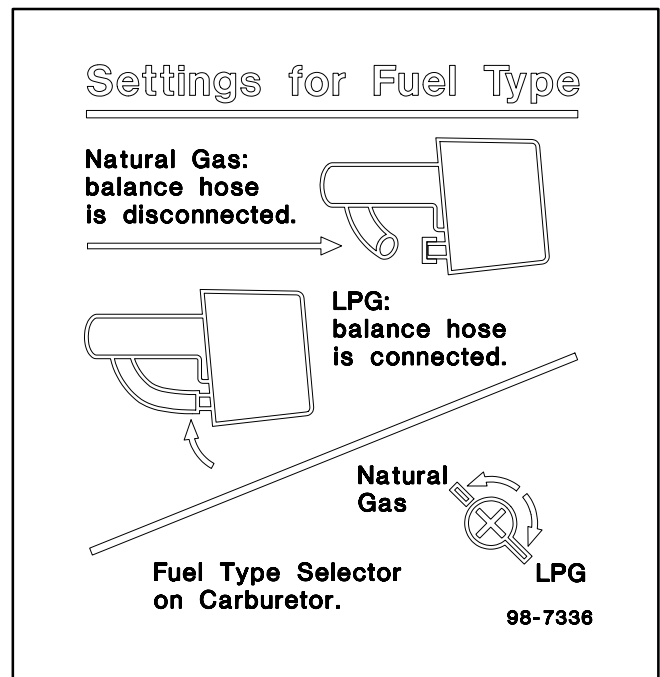
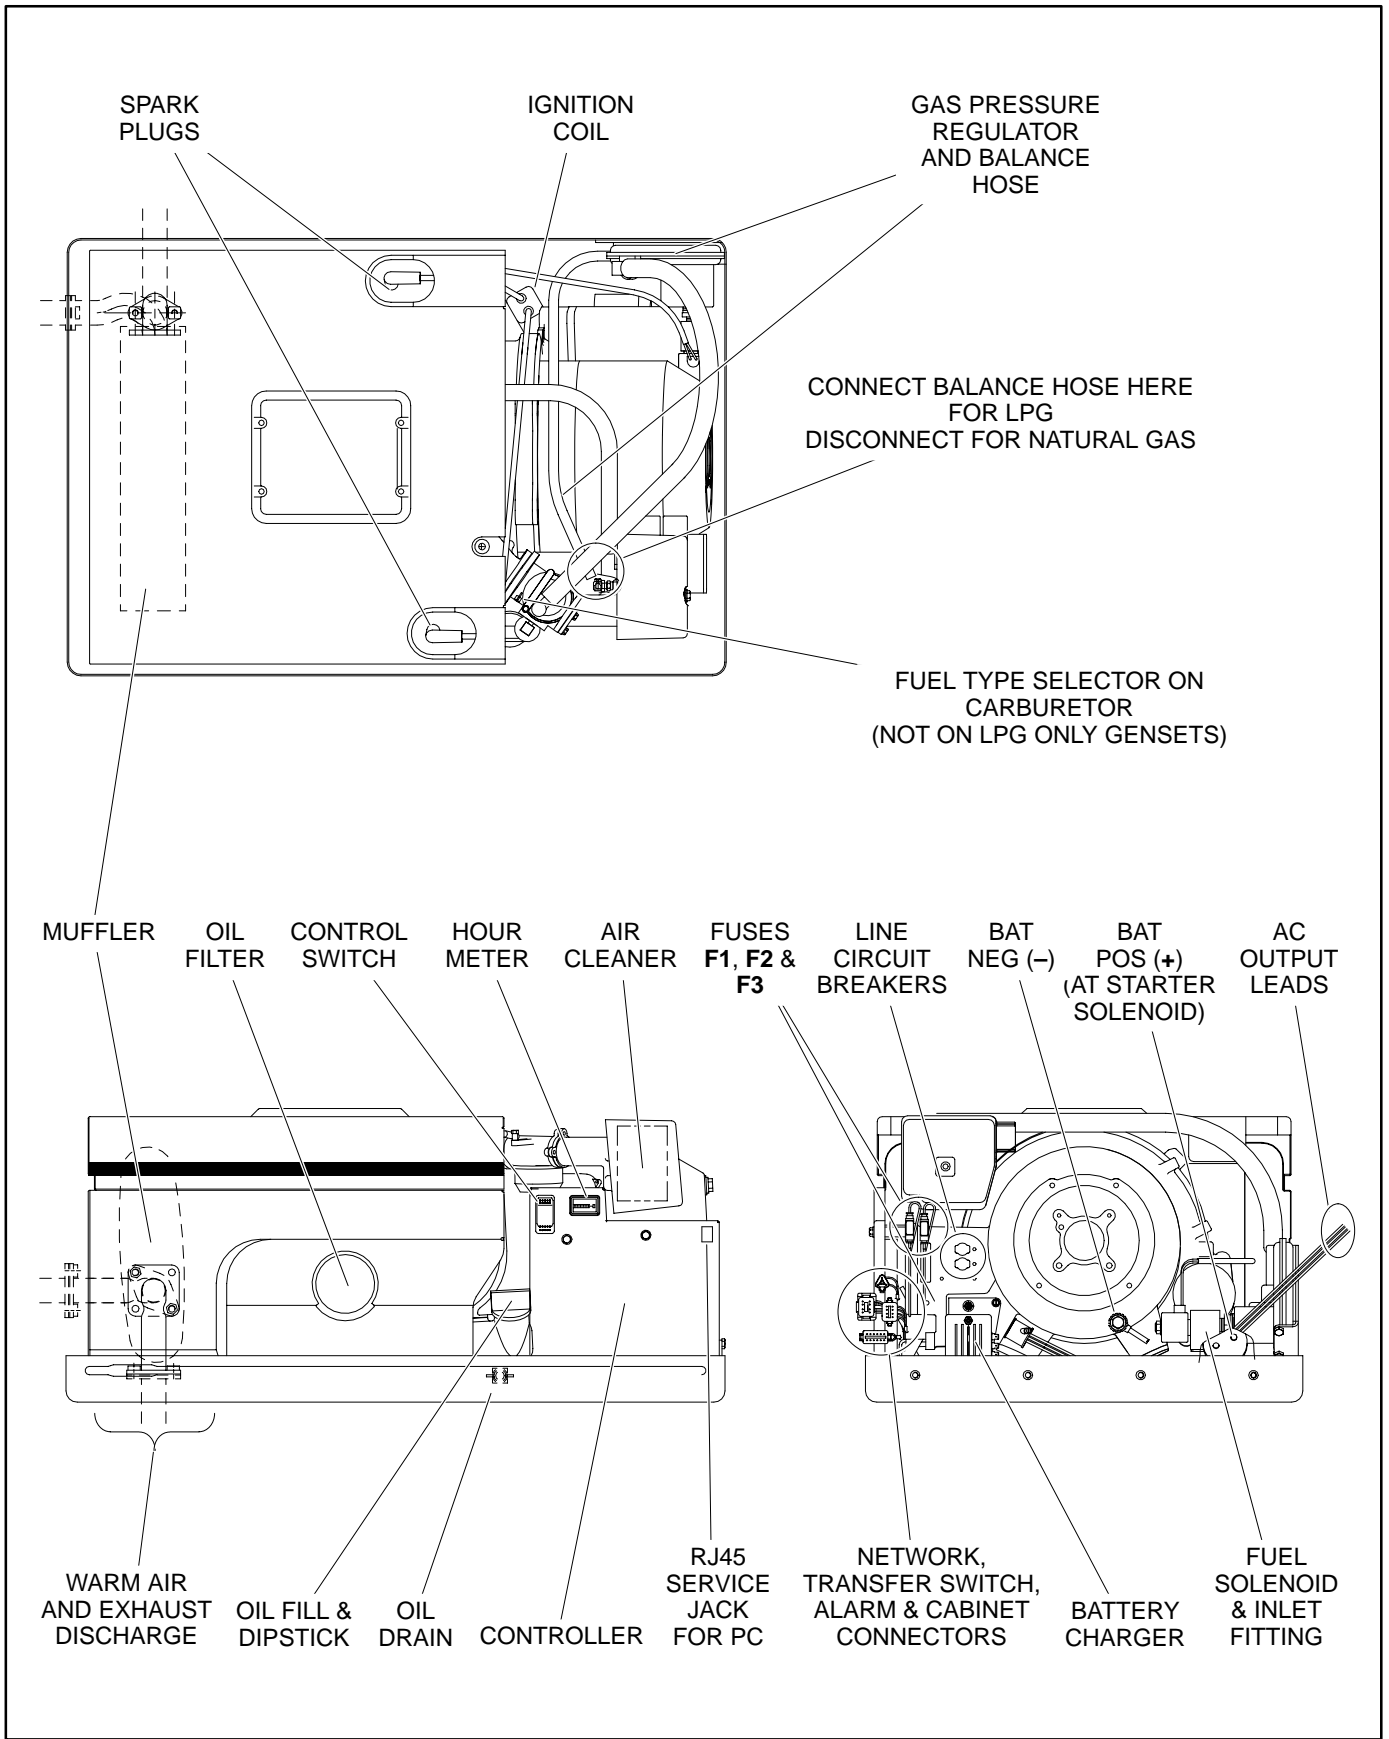

FIGURE 2. FUEL SELECTION INSTRUCTIONS
FIGURE 3. TYPICAL AC GENSET
If the nameplate specifies “Natural Gas” as the fuel, the genset is convertible for use with LPG (vapor withdrawal) in accordance with the instruction label on the genset (Figure 2). See Figure 3 for a layout of the fueling parts of the genset.
Figure 3 is a layout of a typical genset. The control features are as follows:
If a circuit breaker in the main power distribution panel or on the genset (Figure 3) trips, there is either a short circuit or too many loads being operated at the same time. Note that the genset will continue to run after a circuit breaker trips.
1. Push the genset line circuit breakers **OFF** (Figure 3).
5. Push the genset line circuit breaker to **ON** (Figure 3) and the control switch to **Auto** for remote, automatic starting and stopping (transfer switch or network).